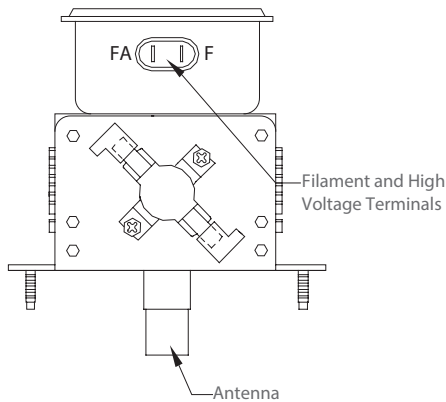

Figure 79: Magnetron
The magnetron (Figure 79) supplies RF energy at 2.45 GHz. The magnetron will start to oscillate once it is supplied with approximately 4.1 kVDC at approximately .350 mA. During operation, the magnetron will output a nominal 1 kW of power.
2. Isolate the magnetron from the circuit by removing the wires from the F and FA terminals. Figure 79.
3. An ohmmeter connected between the filament terminals (F, FA) should indicate a reading of less than 1 ohm. Figure 79.